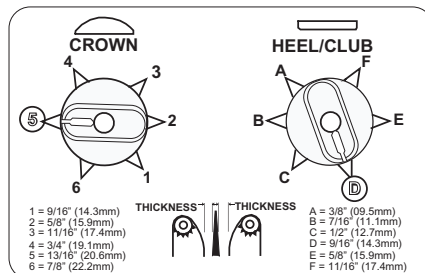

Figure 1A. Bun Thickness Control for 17 Second Toasters.
6. Plug the power cord into the appropriate power outlet and turn the Rocker Switch (Power On/Off) to ON. Count for seventeen (17) seconds for toasters with a YELLOW label. For toasters with a GRAY label, count for ten (10) seconds (See Figures 1A and 1B). Turn the toaster off and unplug the power cord. Repeat Step 5 again on both Groovy Belt wraps, heat dampers, and the surface of the inner conveyor.
10. Verify that the Compression Knobs are set to "D & 5" for toasters with YELLOW labels. Set the controls to "B & 3" for toasters with GRAY labels (see Figures 1A and 1B).
2. Close the Conveyor Cover(s), plug the power cord into the appropriate power outlet, and turn the Rocker Switch (Power On/Off) to ON. Count for seventeen (17) seconds for toasters with a YELLOW label. For toasters with a GRAY label, count for ten (10) seconds (see Figures 1A and 1B).
2. Verify that the Compression Knobs are set to “D & 5” for toasters with YELLOW labels. Set the controls to “B & 3” toasters with GRAY labels (See Figures 1A and 1B). Plug the power cord into the appropriate power outlet, and turn the unit on.